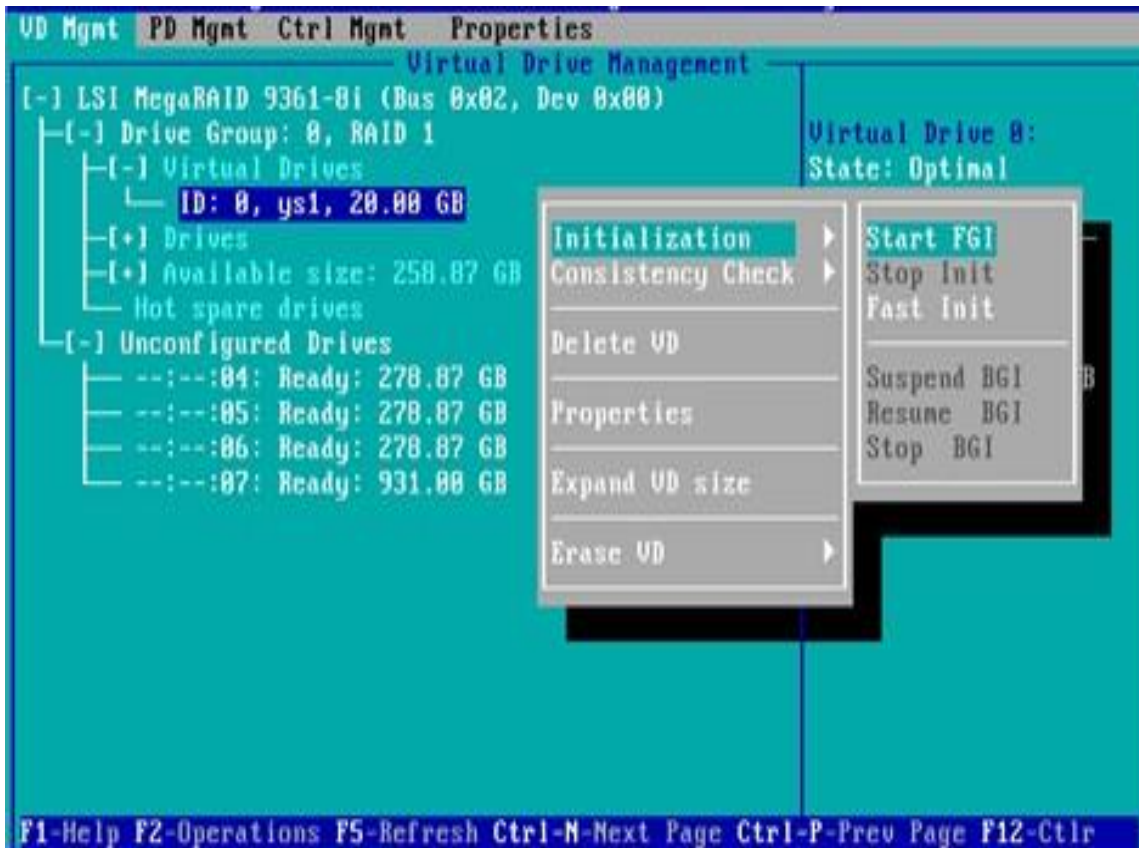

Figure 6-101
b) Enter the interface shown in figure 6-101 and select initialization - > start FGI.